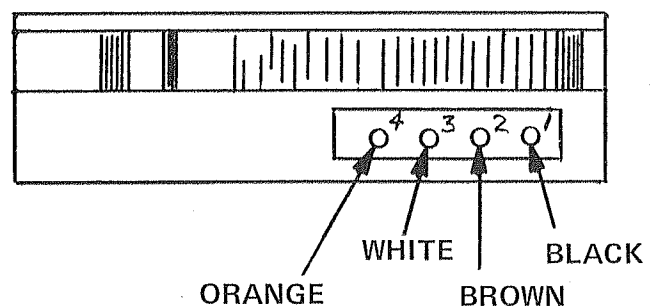

FIGURE 1
1. Unsolder the following leads from the AM antenna. Use care not to over heat and damage the antenna terminals. (Figure 1)
4. Remove two (2) Phillips Screws (44) securing pc board to chassis. Remove pc board.
## REMOVING AM ANTENNA ASSEMBLY (39) (Figure 1)
2. Remove two (2) Phillips Screws (57) with Nut and Lockwasher securing antenna. Remove antenna assembly.